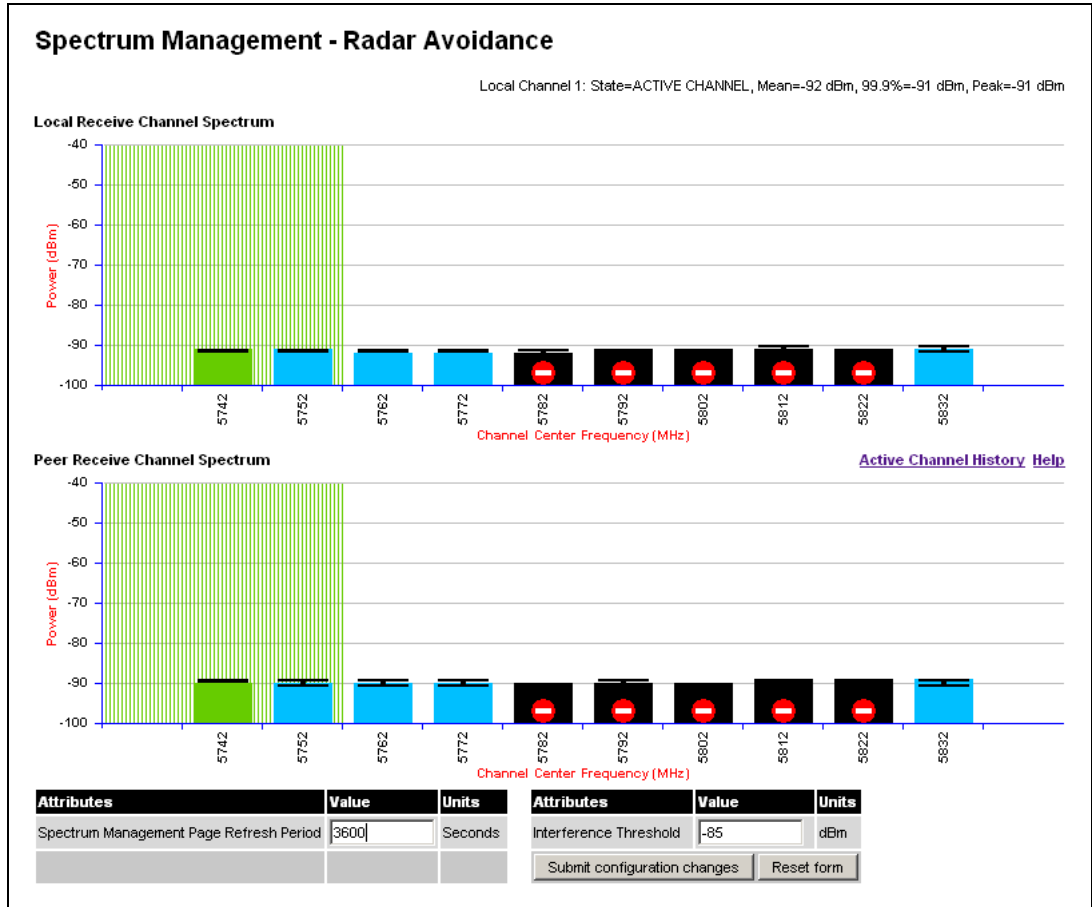
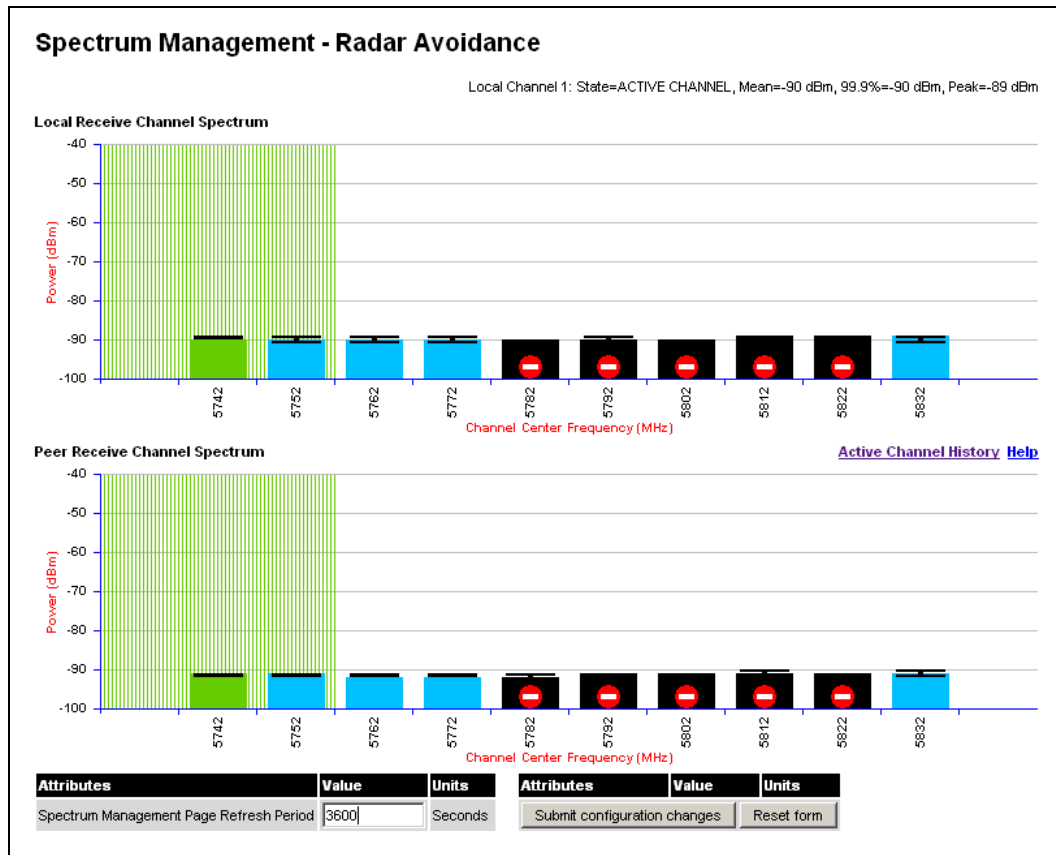

Figure 68 - Spectrum Management Master Screen With Operational Restrictions
Figure 69 - Spectrum Management Slave Screen With Operational Restrictions
- The words “Radar Avoidance” are appended to the “Spectrum Management” title at the top of the screen. See Figure 68 and Figure 69.
- The only controls available to the master are the Interference Threshold attribute. This has no effect on the operation of the wireless link and will only affect the generation of the channel spectrum graphics. See Figure 68.
- A channel marked with a ‘no entry’ symbol with their associated statistics colored black are the prohibited channels. See Figure 68 and Figure 69. These channels are never